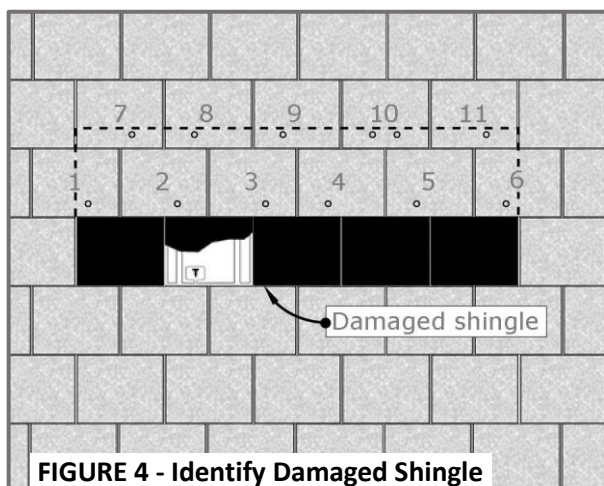

FIGURE 4 - Identify Damaged Shingle
- To replace a shingle first identify the location of all of the fasteners holding the shingle in place. In the example shown, 12 fasteners need to be removed. These are located underneath the tabs labelled 1-11. See **Figure 4**.